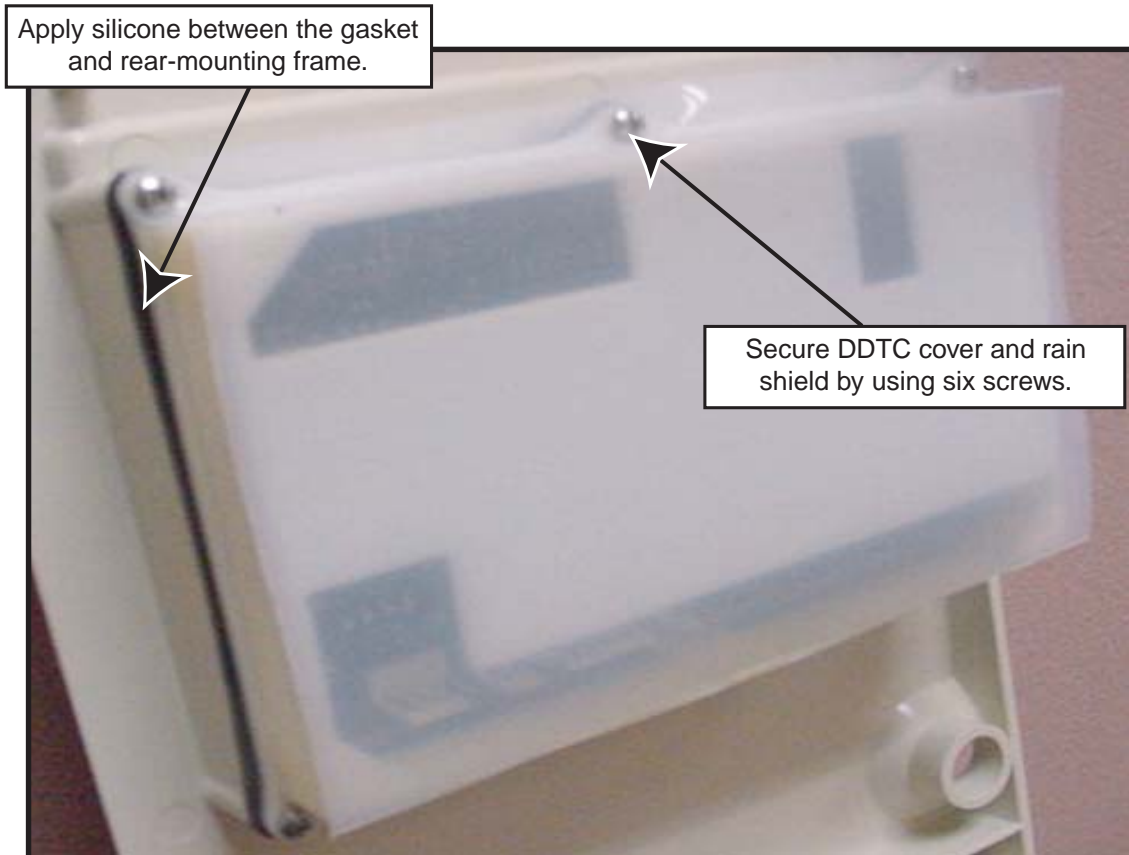

Figure 3.
8. Install the cover gasket, DDTC cover, and rain shield by using six screws, (six screws are provided in the kit). See Figure 3.